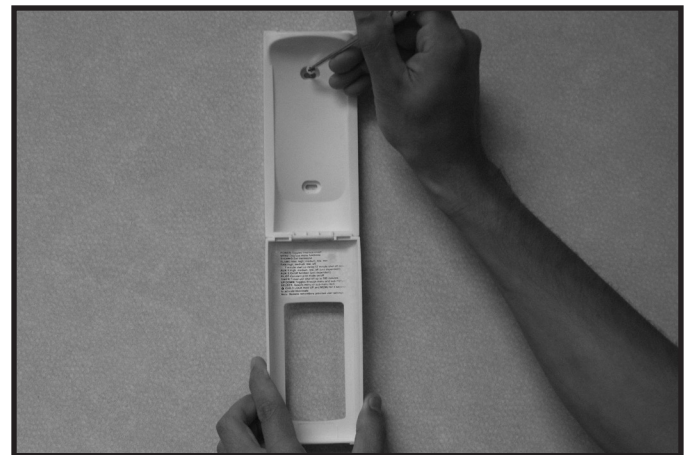

Figure 10.4. Mounting Remote Control Housing
3. Secure the remote control housing on a flat wall surface using the two screws and wall anchors provided. See Figure 10.4.